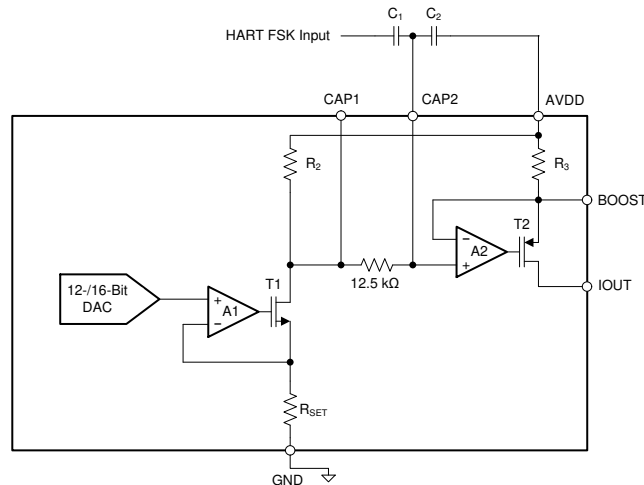

图 9-3. Implementing HART on IOUT Using the CAP2 Pin
The first method of implementing HART is to couple the signal through the CAP2 pin, as conceptualized in 图 9-3. Note that this pin is only available in the 40-pin VQFN package.
In 图 9-3,  $R_3$  is nominally 40  $\Omega$ , and  $R_2$  is dependent on the current output range (set by the RANGE bits) as described below:
1. As is seen in 图 9-3, CAP2 is directly connected to the input of the final IOUT amplifier. Any noise or unwanted ac signal routed near the CAP1 and/or CAP2 pins could capacitively couple onto internal nodes and affect IOUT. Therefore, with the QFN package, it is important to avoid routing any digital or HART signal trace over the CAP1 and CAP2 traces.